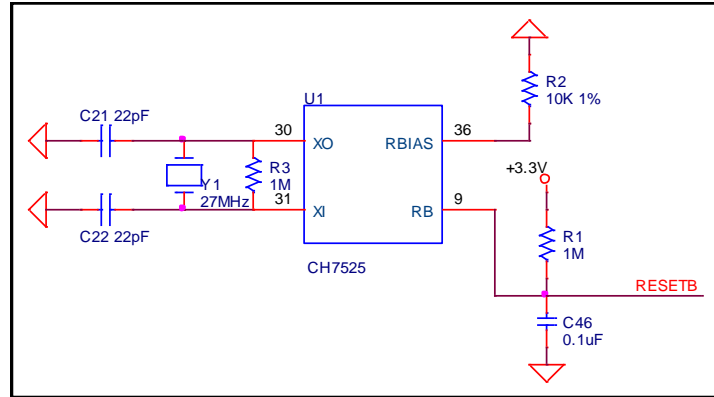

Figure 2: RBIAS Pin Connection and General Control
This pin sets the Band-gap Bias Voltage. A 10 K-Ohm, 1% tolerance resistor should be connected between RBIAS and GND as shown in **Figure 2**. A smaller resistance will create less Band-gap Bias voltage. This resistor should be placed with short and wide traces as near as possible to CH7525. For optimum performance, this signal should not overlay the analog power or analog output signals.
1. The RB signal can be generated by on board Resistor and Capacitor delay, which can refer to **Figure 2**.
The crystal load capacitance, CL, is usually specified in the crystal spec from the vendor. As an example to show the load capacitors, **Figure 2** shows a reference design for crystal circuit design.